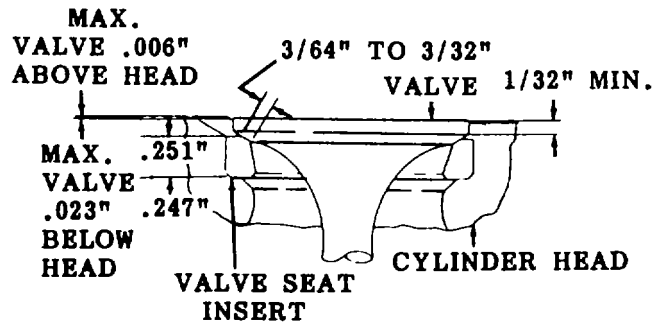

Figure 3-87. Exhaust Valve Positioning.
- (9) Compress spring (3) and install both halves of valve lock (1).
- (10) Remove spring compressor.
- (11) Refer to figure 3-87 and check the valve position.
- (12) Give the end of the valve stems a sharp tap with the end of a plastic mallet to aid in seating the valve locks.